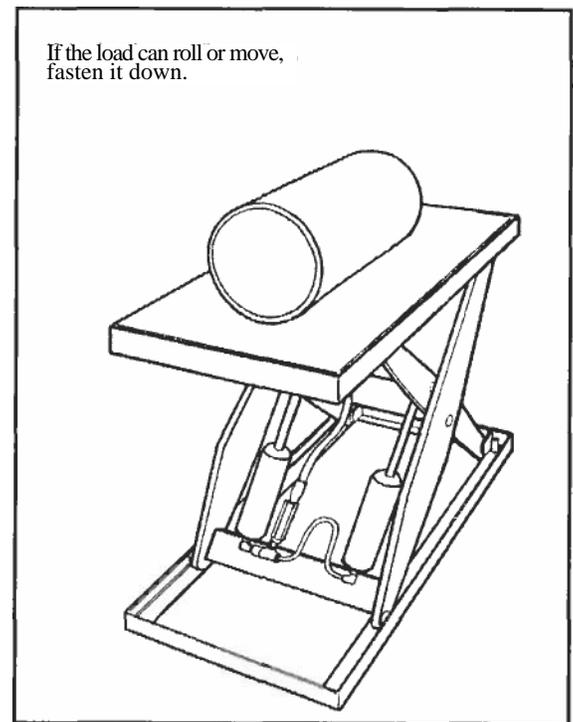

Fig. 4 - Secure the Load
- If you are lifting pipes or other objects which may be able to roll or move, fasten them down, or chock them. Fig. 4. Be sure all workers are clear of the lift. Remove any material which may fall onto the lift.